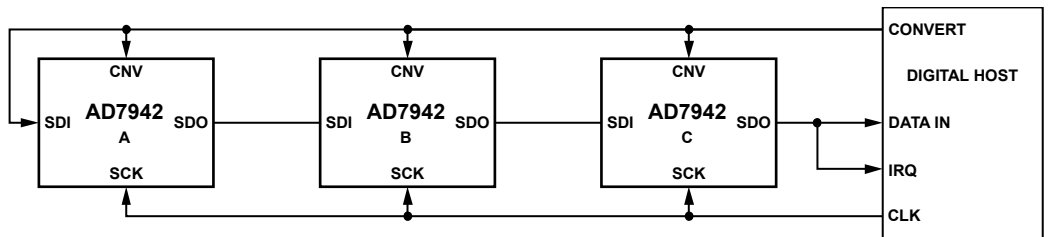
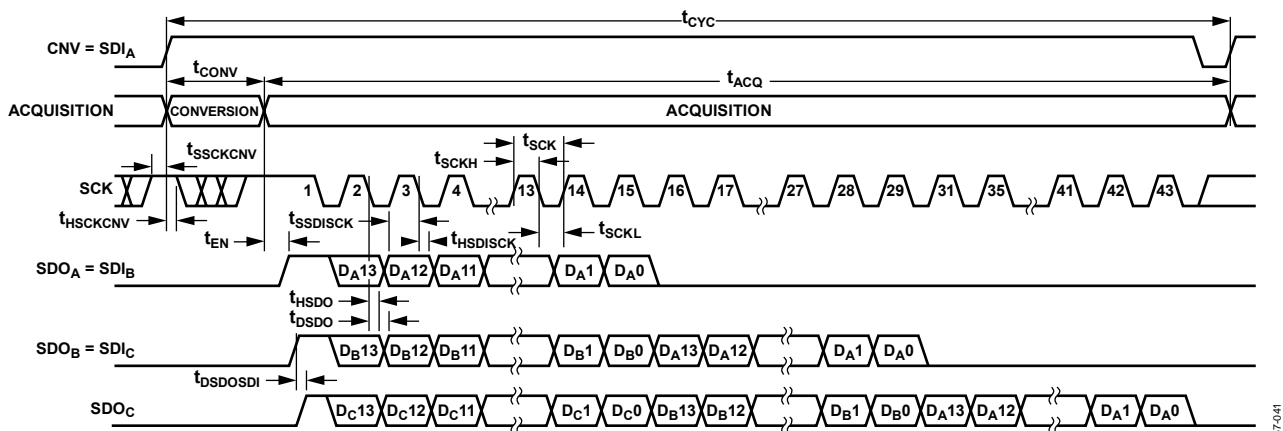

Figure 40. Chain Mode with Busy Indicator Connection Diagram
Figure 41. Chain Mode with Busy Indicator, Serial Interface Timing
- In the chain mode, if SCK is high during the CNV rising edge (see Figure 41).
This mode can also be used to daisy-chain multiple AD7942s on a 3-wire serial interface while providing a busy indicator. This feature is useful for reducing component count and wiring connections, for example, in isolated multiconverter applications or for systems with a limited interfacing capacity. Data readback is analogous to clocking a shift register. A connection diagram example using three AD7942s is shown in Figure 40 and the corresponding timing diagram is given in Figure 41.
When SDI and CNV are low, SDO is driven low. With SCK high, a rising edge on CNV initiates a conversion, selects the chain mode, and enables the busy indicator feature. In this mode, CNV is held high during the conversion phase and the subsequent data readback. When all ADCs in the chain have completed their conversions, the near end ADC (ADC C in Figure 40) SDO is driven high. This transition on SDO can be